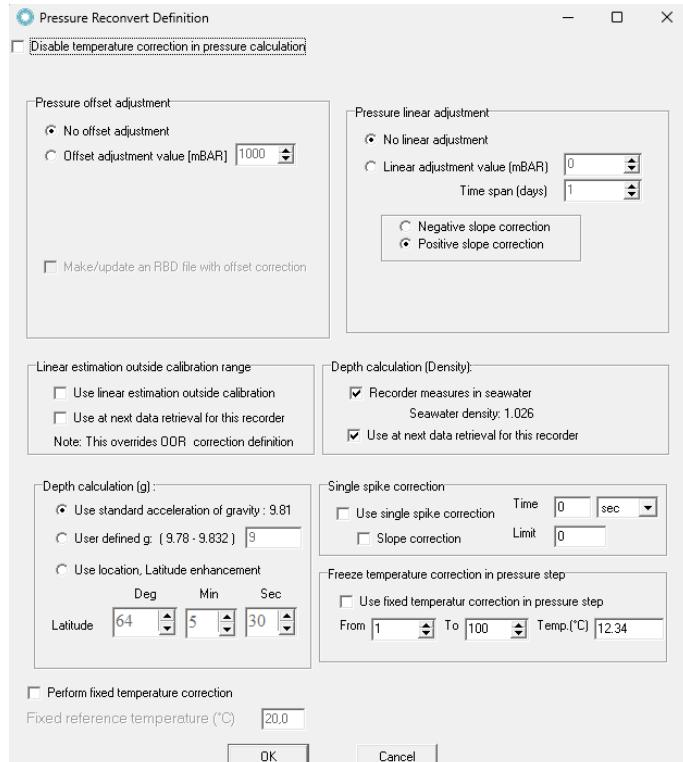

Figure 8.3: Pressure Reconversion menu
2. **Linear Adjustment:** Find the offset value after deployment by taking an average of in-air values. After determining the offset value, enter it in the Pressure linear adjustment window, shown in Figure 8.3. Input the duration of the measurement period in the 'Time span (days)'. The offset will then be adjusted linearly over this period.
In the **From** field (see Figure 8.3), enter the measurement number when the sensor hit the water, and in the **To** field, enter the number of the measurement when the temperature became stabilized. The temperature value of the latter measurement is entered in the **Temp** field. This fixed value is then used to correct the pressure value.